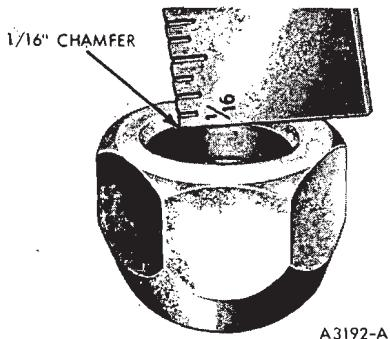

FIG. 15—Measuring Chamfer on Valve Rocker Arm Stud Nut
4. Coat the fulcrum seats and sockets with Lubriplate. Make certain that the rocker arm stud nuts are in a serviceable condition (Fig. 15) before installing them. If the seat is cracked or deformed the valve spacing will be insufficient and could possibly cause burned valves. Install rocker arms, fulcrum seats, and stud nuts. Turn stud nuts down only about two turns to facilitate push rod installation when cylinder head is installed.